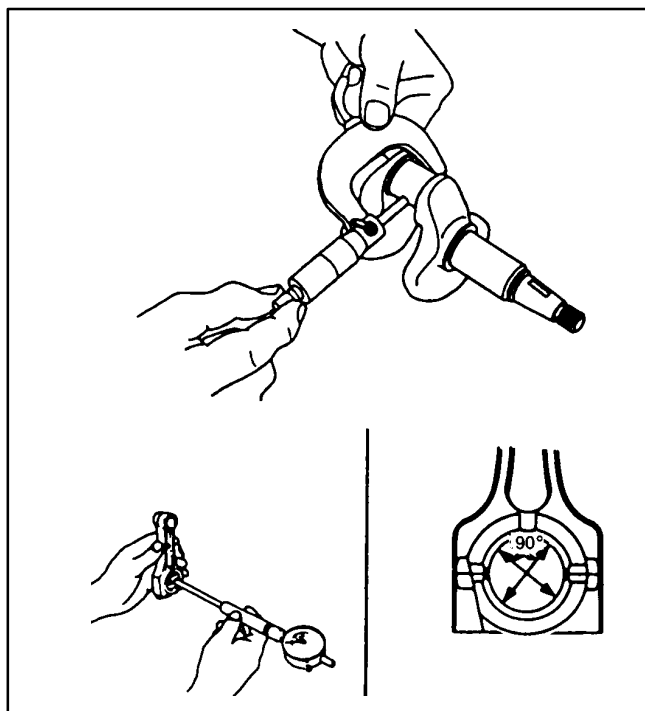

FIGURE 10-30. CRANK PIN AND CONNECTING ROD CLEARANCE
1. Measure the crank pin OD and the connecting rod big end bore with a micrometer, and calculate the difference (Figure 10-30).